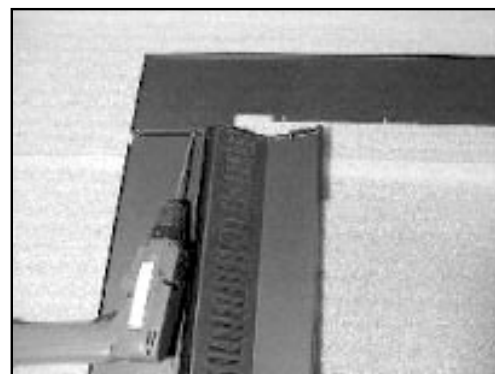

Figure 21.6
4. Align top panel to side panel setting clearance hole over screw head in side panel/curtain assembly. Install (2) 8-32 x 3/8 inch screws through holes in side panel into top panel. **Figure 21.6**. Complete for both sides.